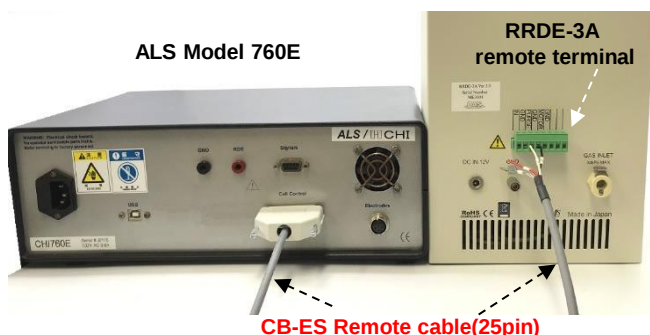

Figure 4-1 Remote connection of ALS Model and RRDE-3A
- Figure 4-1 is an example of remote connection for ALS Potentiostat and RRDE-3A Rotating Ring Disk Electrode Apparatus.